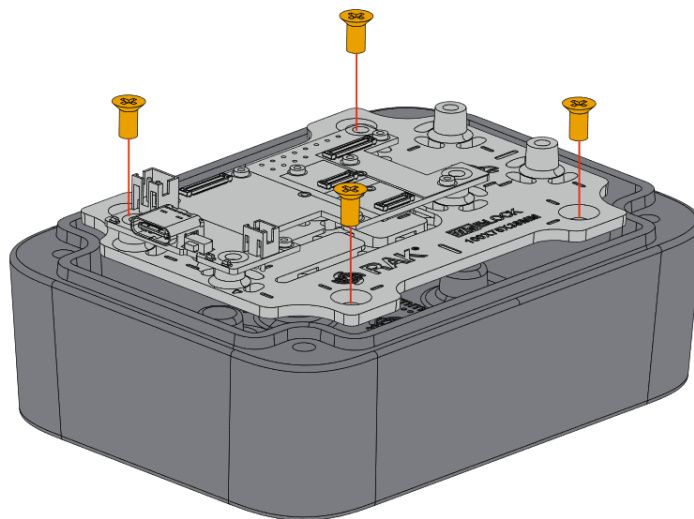

Figure 9: Installing Internal Mounting Plate to the enclosure
Then install the WisBlock Internal Mounting Plate to the base of the enclosure using four (4) pieces of M3*4 mm Countersunk head screws, as shown in **Figure 9**.